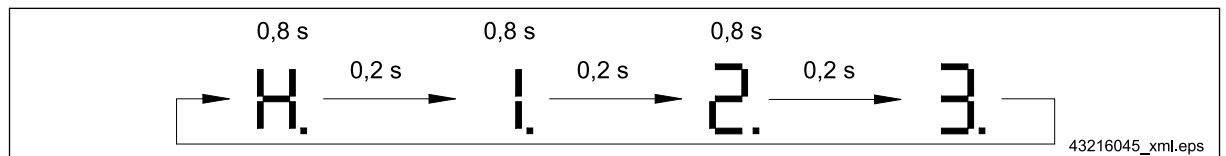

Fig. 10 Example: 123 hours of operation
- Operating hours \Rightarrow Fig. 10, Page 31,